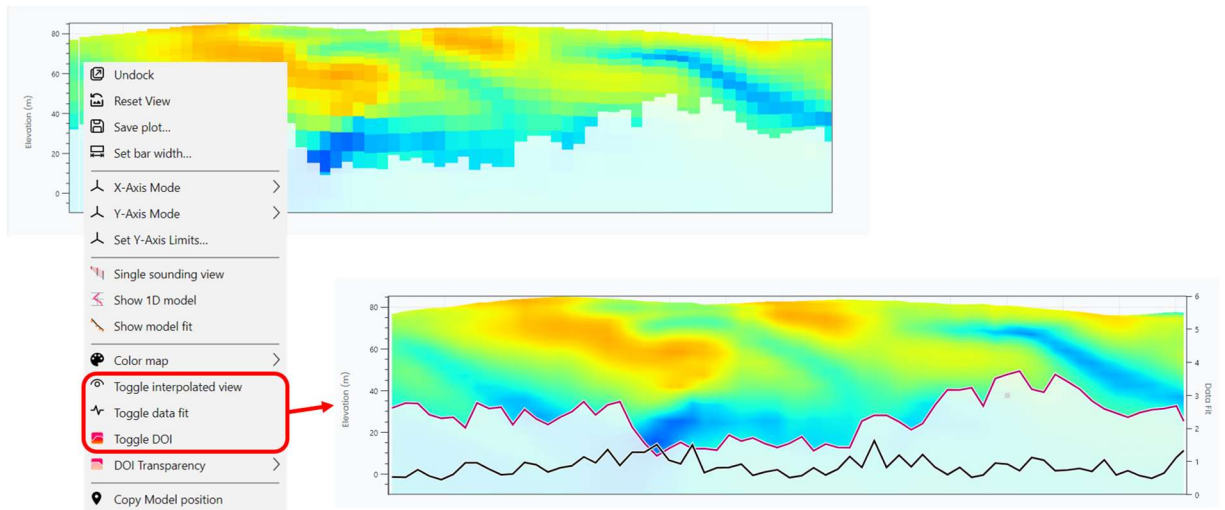

Figure 16: Right-click options available in the Model Plot (left) and the resulting model display with Interpolated View, Data Fit, and DOI enabled (right).
The resistivity model created as a result of an inversion can be displayed as a resistivity section (Figure 15). Two display modes are available (Figure 16):
- **Depth of Investigation (DOI)** – model layers below the estimated depth of investigation are faded (Figure 16). The DOI transparency can be adjusted using the right-click options.
- **Data Misfit** – data misfit line can be displayed alongside the resistivity section (Figure 16).
The appearance and content of the Model Plot can be customized in several ways. Right-clicking anywhere within the model plot provides access to additional viewing options (Figure 16), including: